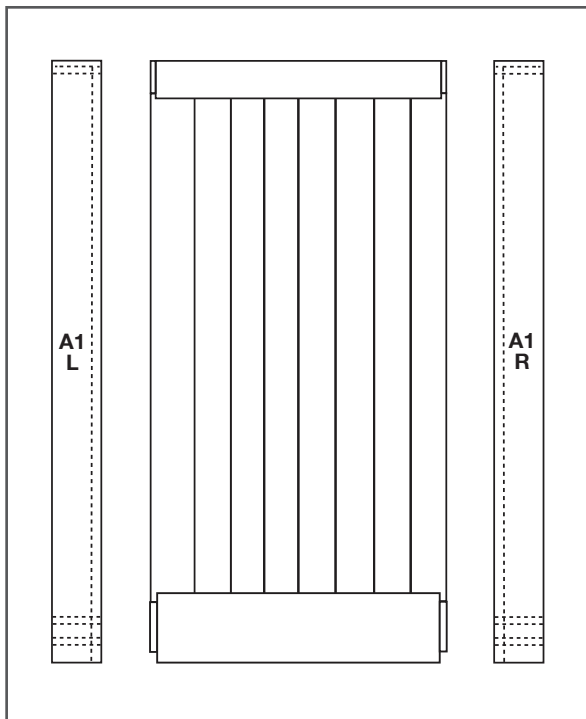

Figure 4
4. Place the left side style (A1-L) beside the assembled slats and rails. Slide to the right to cover the top and bottom rail tongues and the edge of the slat assembly. Tap the rails into place with a rubber mallet. Repeat with the right stile (A1-R) (Figure 4).